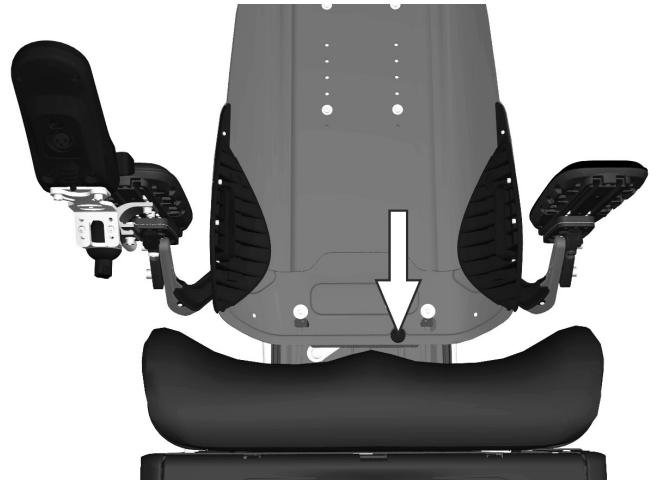

Figure 189. The lower backrest plate is secured by means of a knob.
3. Remove the knob securing the position of the lower backrest plate. See fig. 189.